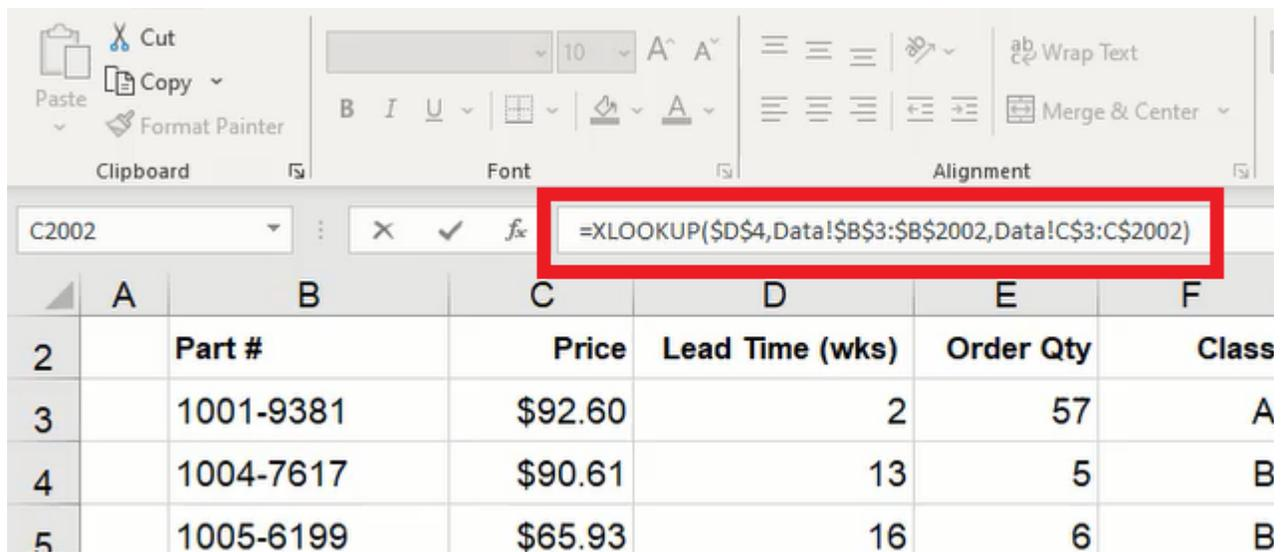

Figure 20.11
4. Select the return_array data; this will be the column of data associated with the parts (Price, Lead Time, Order Qty, Class, % OTD columns). (See **Figure 20.11**)